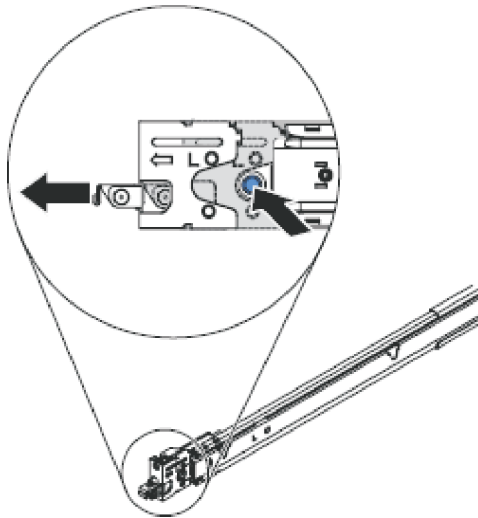

Figure 49. Preparing the front end of the slide rails
4. Prepare the front end of the slide rails, as shown in Figure 49.